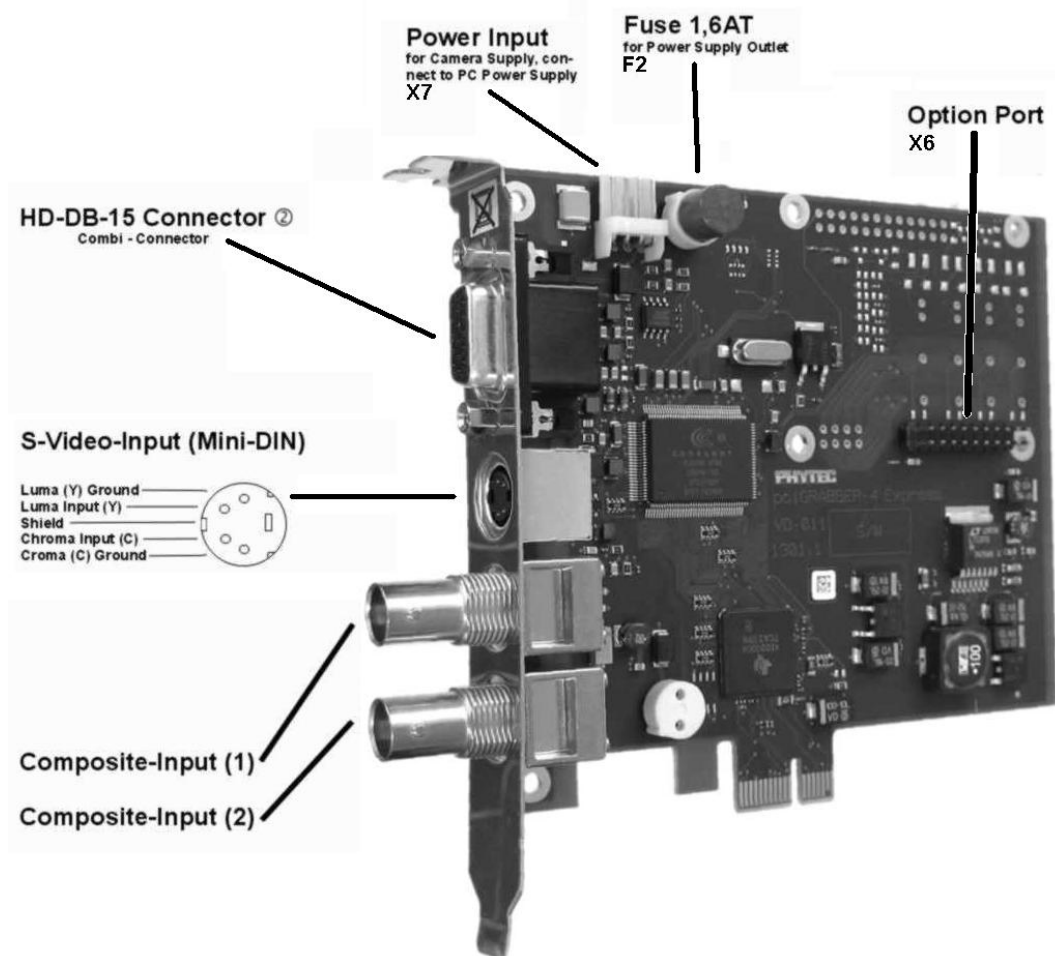

Figure 14: Connectors of the pciGrabber-4express
Three composite inputs available to the framegrabber are located on the HD-DB-15 socket ②. Additional two of the three composite inputs are also located on BNC-plugs (refer to *Figure 14*).
- Direct an S-Video signal to the 4-pin Mini DIN socket (X3). The socket is wired corresponding to the S-Video standard (*refer to Figure 14*). The connection of the camera is made by a standard S-Video cable..
- Using a special cable (i.e. WK075), it is possible to connect an S-Video camera to the HD-DB-15 socket ②. Connecting the S-Video camera in this manner allows additional power supplies of +12 V, or additional signals, to be directed by the same connection cable. If such a cable is being used, then the following pins are to be connected (connection of the power supply is optional):